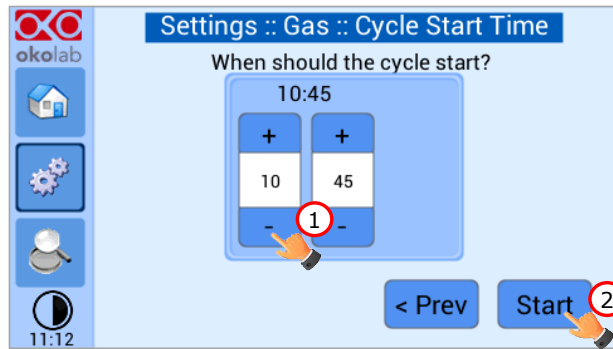

Figure 55. Cycle Start.
- Schedule the time for the concentration cycle to start (see Figure 55).